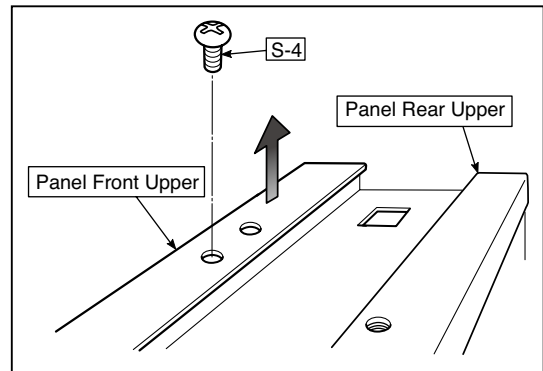

Fig.21
9) Remove the Panel Front Upper and Panel Rear Upper. (See Fig. 21)
1. Remove the "S-4" screws shown in the figure 21 and then remove the Panel Front Upper and Panel Rear Upper).